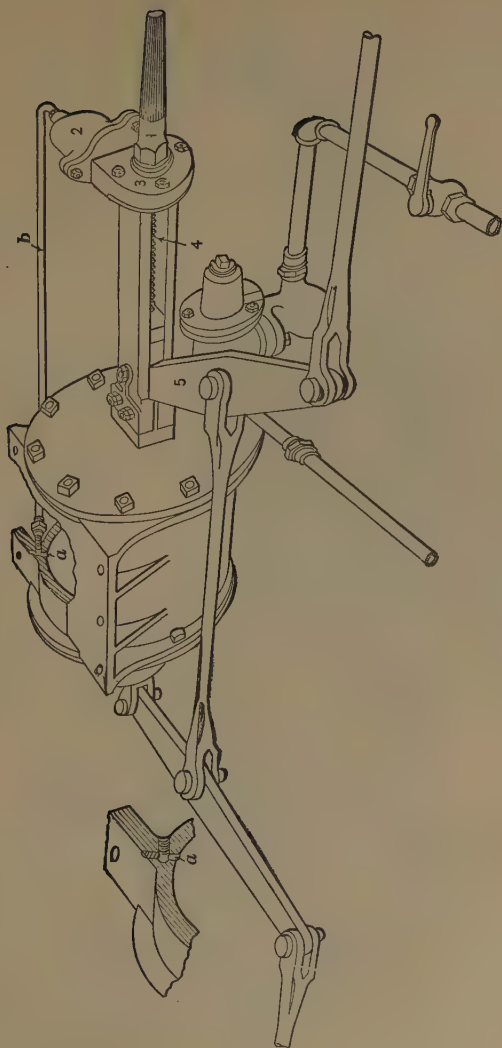

Fig. 296. Automatic Slack Adjuster.
A. Referring to Figs. 296 and 297, the brake-cylinder piston acts as a valve to control admission and release of brake-cylinder pressure to and from pipe *b* through port *a*, which it uncovers when there is excessive travel, thus letting brake-cylinder air through *b* into slack-adjuster cylinder 2, where the small piston 19 is forced outward, compressing spring 21. The piston stem 23 has a pawl extending into casing 24 and